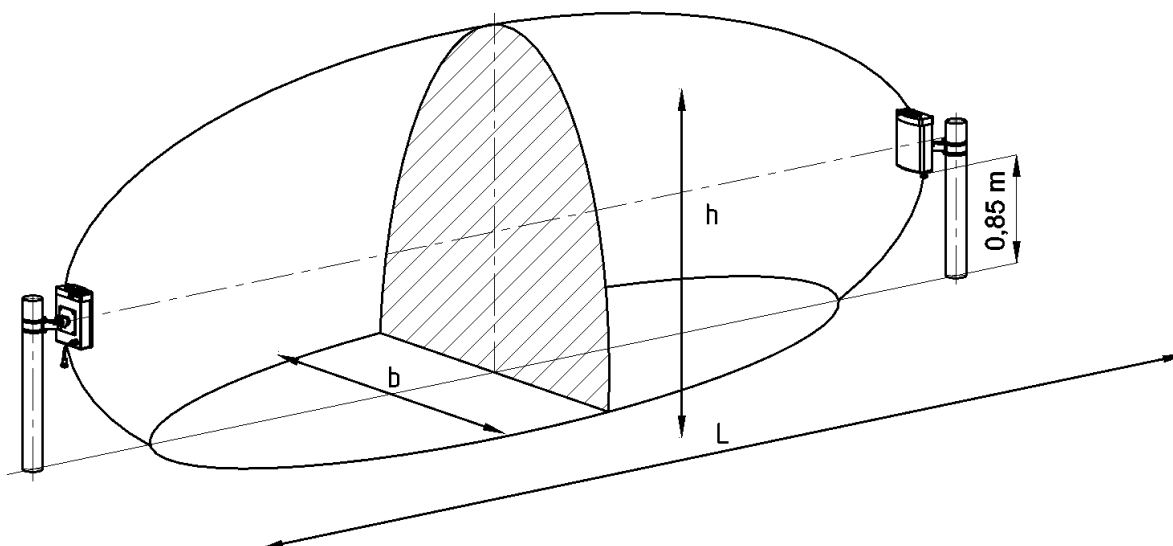

Fig.1.1. Detection zone
The configuration and the dimensions of the detection zone are given in fig. 1.1. and table 1.1
1.2.3. In Fig.1.1 and Table 1.1 the height (h) and the width (b) of the detection zone are given for the middle of the sector. Moving towards the receiver or transmitter these dimensions decrease evenly, given the geometry of positioning the receiver and transmitter.